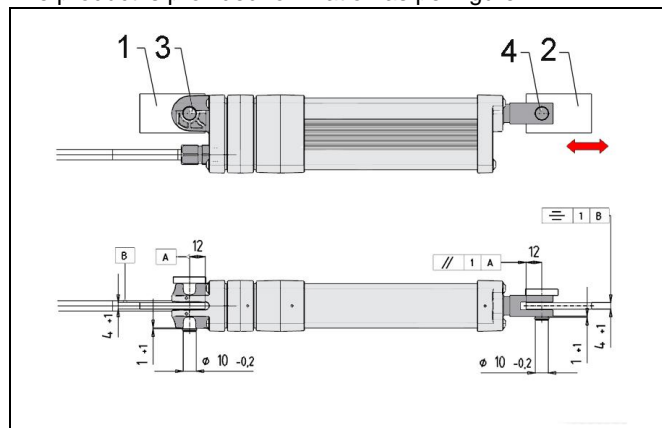

Figure 1: Mounting
The product is provided for fixation as per figure 1.
- Mounting as described in figure 1.